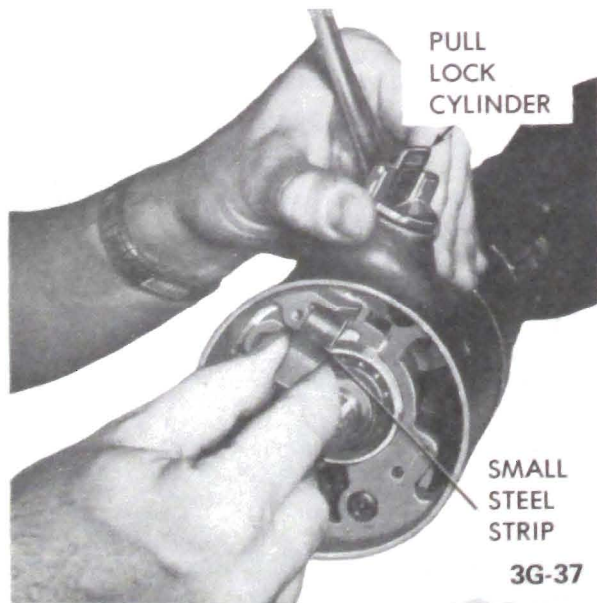

Figure 3G-56 - Signal Switch Wire Protector
7. Depress lock plate using tool J-23653 and the steering wheel nut. Pry the round wire snap ring out of the shaft groove and discard ring. Remove the shaft lock plate. See Figure 3G-30.